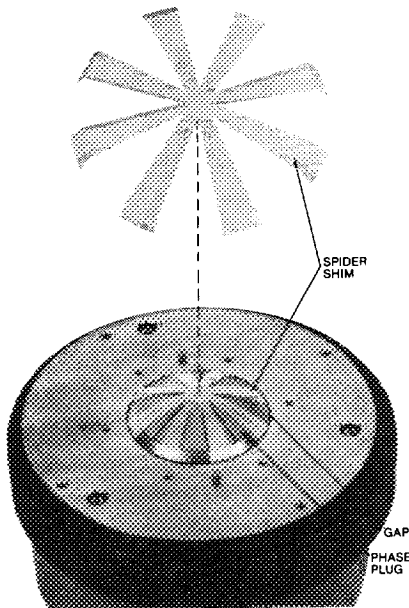

Figure 13. Spider Shim Installed into Voice Coil Gap
8. Insert spider shim into voice coil gap as shown in Figure 13. Shim No. 14-20-023963 is supplied with replacement diaphragm and voice coil assembly.